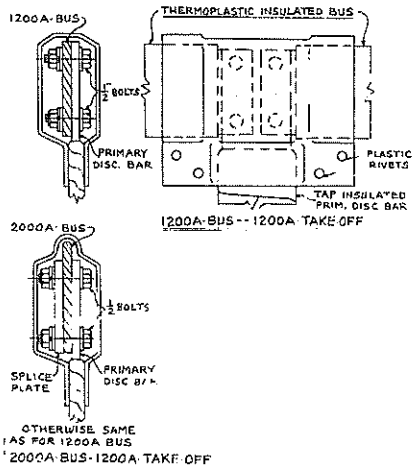

FIG. 25A (208A8953) 4.16 KV AND 13.8 KV BUS INSULATING BOOT
- 2- PVC(POLYVINYL CHLORIDE) boots Fig.25A.
- (2) Prepare all joints as outlined under "CONNECTIONS".
- (3) Place the PVC boot over the joint as shown in Fig. 25A.
- (4) Secure the PVC boot with self-locking fasteners furnished. Joint insulation is now complete.
- (5) Replace all covers previously removed.
- (6) Boots will be furnished for standard configurations, however special conditions must be taped.